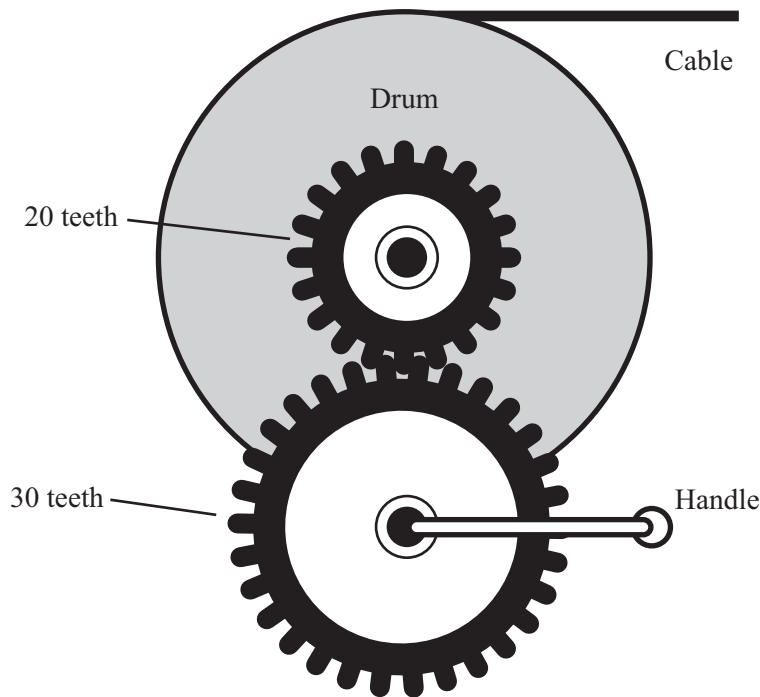

Fig. 5
- 6 **Fig. 5** shows a mechanism for winding a cable on to a drum. The drum is turned by a system of gears using the handle as shown.
- (a) (i) Mark on **Fig. 5** the direction in which the handle should be rotated in order to wind the cable on to the drum. [1]